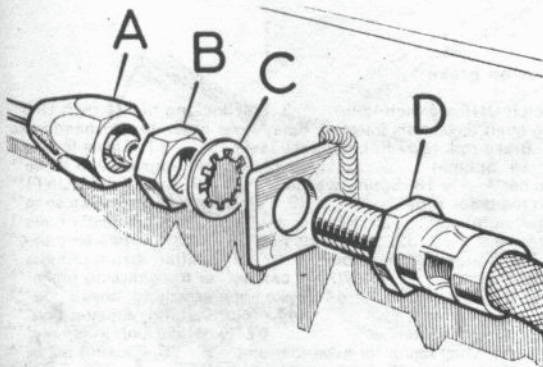

FIG 11:14 Flexible hose connections
- 2 If the system incorporates a servo unit of the hydraulic type refer to FIG 11:15 and bleed this unit first as follows:
Key to Fig 11:14